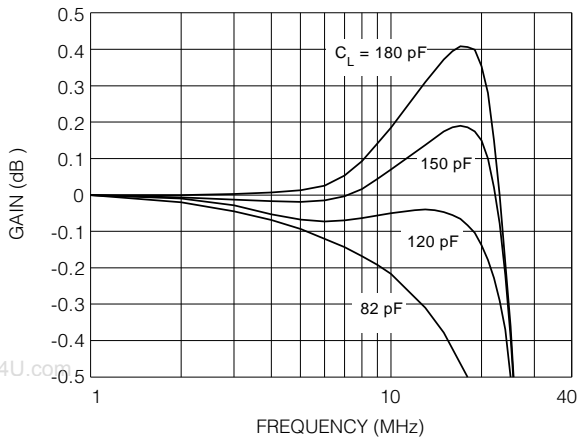

Fig. 4 GB4550 Frequency Response
Optimal frequency response for the GB4550(A) occurs with load capacitances in the range of 80 pF to 100 pF as shown in Figure 4. For smaller loads, an external capacitor can be added to extend the bandwidth and improve the flatness of the device response.